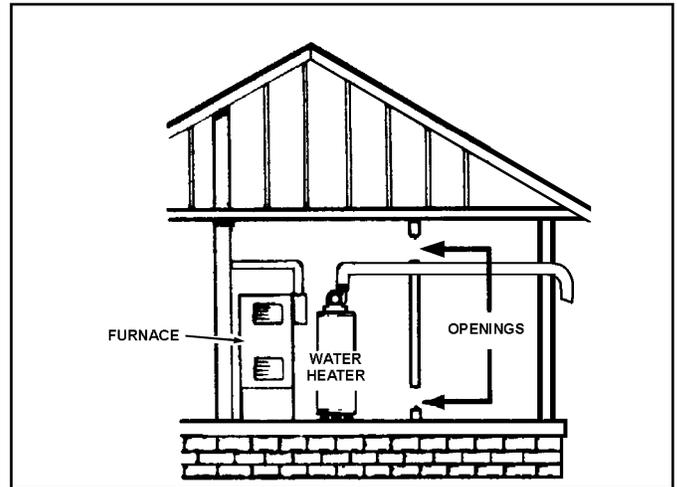

Figure 17.
- A. **ALL AIR FROM INSIDE BUILDINGS:** (See Figure 17)